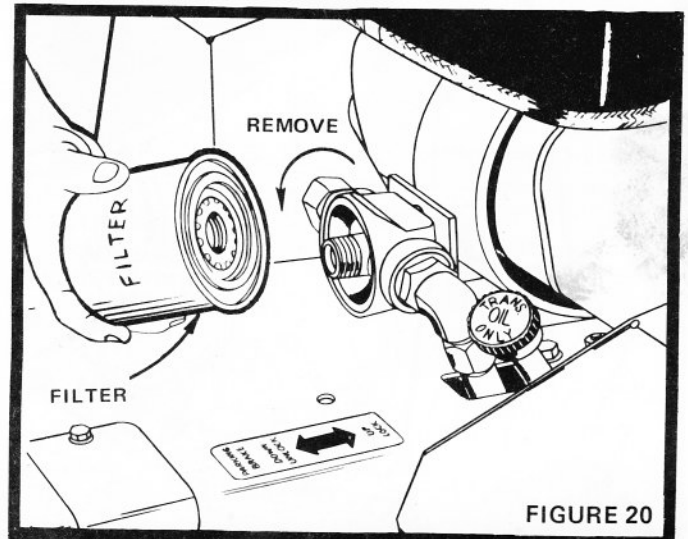

FIGURE 20
- Turn Filter (Fig. 20) counterclockwise to remove. Apply a light film of oil to seal surface and threads of new Filter. Hand tighten Filter securely. Turn Clockwise to tighten.